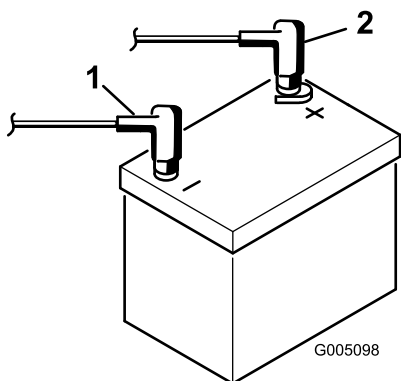

Figure 4
8. Install the positive cable (red) to the positive (+) terminal and the negative cable (black) to the negative (–) terminal of the battery and secure them with bolts and nuts (Figure 4).